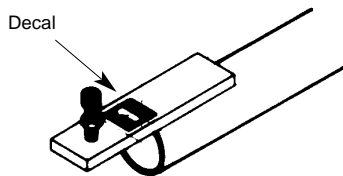

Figure 17
2. Apply decals 1, 2, and 3 to ladder support bars, one decal per bar. (See Figure 17.)